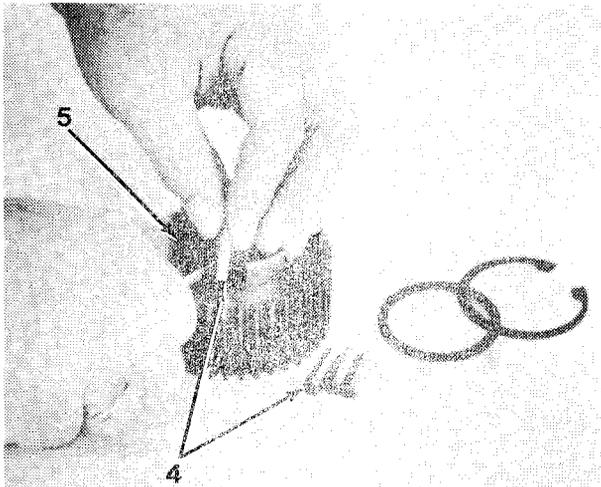

Figure 16-4
4. Using a small, flat-blade screwdriver, compress each rotor spring (5) while installing each rotor roller (4, Figure 16-4),